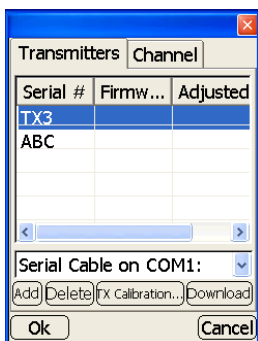

Figure 7-2. Load Transmitters into Pocket-3D
6. On the *Transmitters* tab, select the connection method used between the controller and transmitter. Then perform one of the following functions (Figure 7-2):